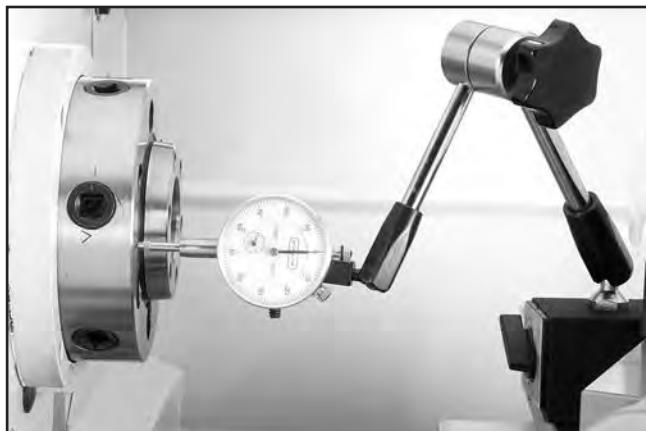

Figure 136. Dial indicator setup.
9. Place dial indicator on cross slide and move carriage toward headstock until contact point of indicator touches spindle face, as shown in **Figure 136**.